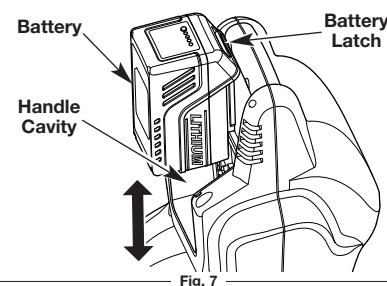

Fig. 7
1. Align the tongue of the battery with the handle cavity (Fig. 7).
1. Press the latch button on the battery down and hold (Fig. 7).